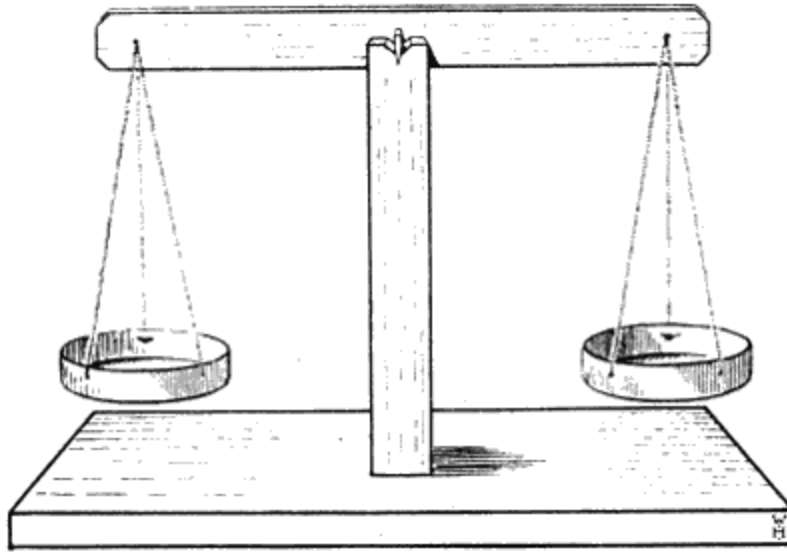

FIG. 72.
A Pair of Scales.—Moreover this is a toy which can be made quite accurately with the aid of a few quite ordinary materials. To a pair of scales—or a balance, as it is sometimes called--there are generally these parts: (1) a balancing arm, generally called the beam; (2) an upright standard on which the beam is supported; (3) two scale pins, and chains (or strings) to suspend them; (4) a base board to which the upright standard is fixed. Fig. 72 shows the sort of thing we mean.